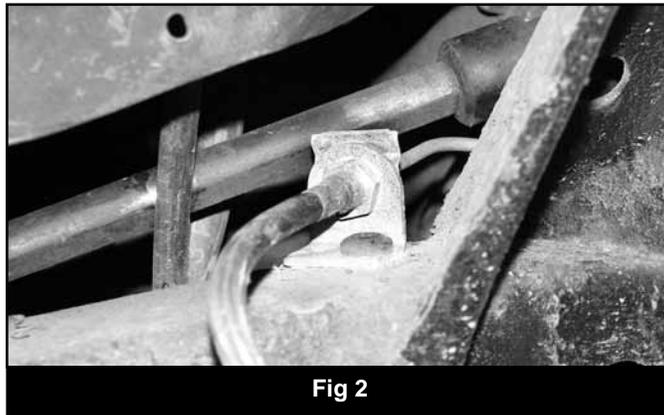

Fig 2
10. Install the new brake line mounting bracket to the new hose and then attach the hose to the steel line at the frame. Attach the bracket to the frame in the original brake line mounting position with the OE bolt. Torque bolt to 18 ft-lbs. (Fig. 2)